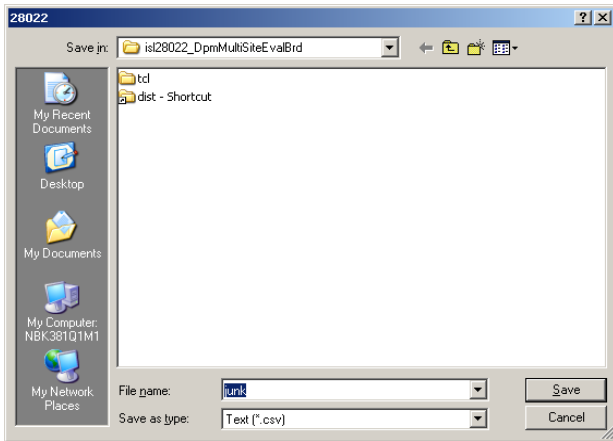

FIGURE 10. FILE NAME AND DIRECTORY SAVE DIALOG BOX
- The DPM software allows the user to store a set number of points of data. Go to the menu bar of the ISL28022 DPM Demo Software window and choose File → Save Data. Choosing the Save Data option will open a dialog box asking for the filename and directory of the save path. Figure 10 is an illustration of the dialog box.
- The software allows the user to save and load the configuration of each of the devices. To load or save a configuration, select Load Config or Save Config under the File drop down menu. A window will appear similar to Figure 10 that will ask for directory information of the file to save or load.